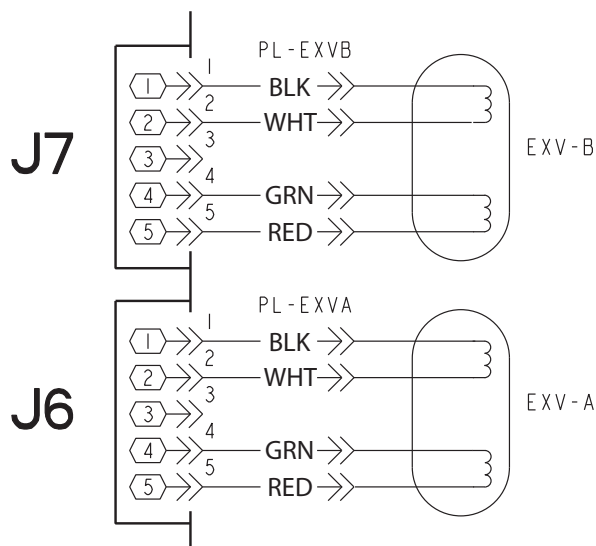

Fig. 25 — EXV Cable Connections to EXV Module
Check the EXV output signals at appropriate terminals on the EXV module (see Fig. 25). Connect positive test lead to red wire (EXV-J6 terminal 3 for Circuit A, EXV-J7 terminal 3 for Circuit B). Set meter to approximately 20 vdc. Using the Service Test procedure above, move the valve output under test to 100%. DO NOT short meter leads together or pin 3 to any other pin as board damage will occur.
3. Check the resistance of the EXV motor windings. Remove the EXV module plug (J6 for Circuit A, J7 for Circuit B) and check the resistance of the two windings between pins 1 and 2 for one winding and pins 4 and 5 for the other winding (see Fig. 25). The resistance should be $100\ \text{ohms} \pm 10\ \text{ohms}$.